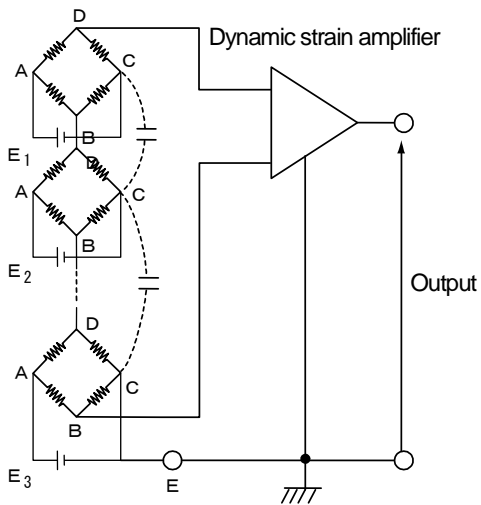

Figure 4-13
(1) When calculating value of addition (Figure 4-13)
For use as above figures 4-13 to 4-15, rated capacity needs to be equal if using transducers, and special attention is required on capacity of the bridge supply if using dynamic strain measuring equipments.